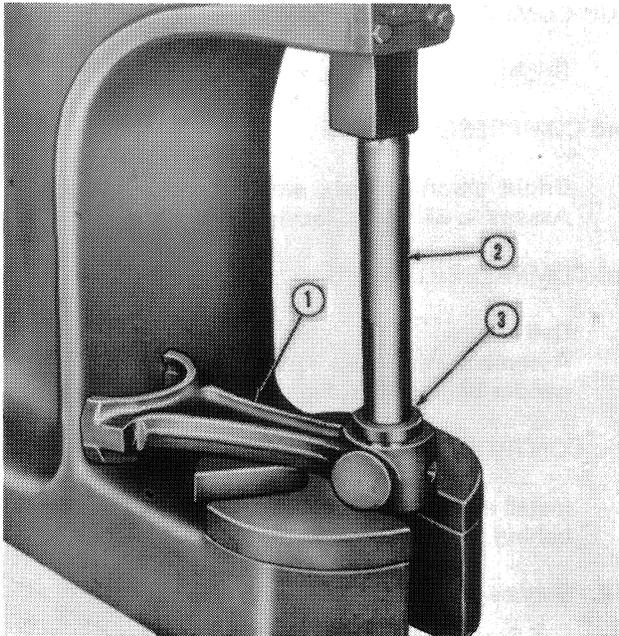

Figure 41
1. Remove the connecting rod bushing from the connecting rod with Driving Mandrel No. 815, Adapter No. T-809, and an arbor press, Figure 41.